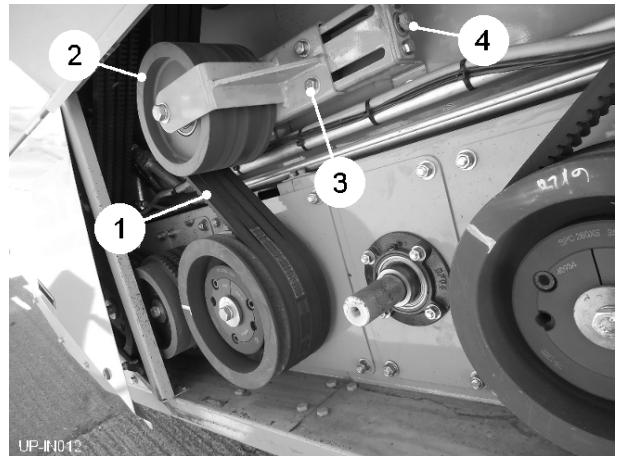

Fig 20
The front 'V' belts (item 1, fig 20) are tensioned by the roller unit (item 2, fig 20). To adjust, loosen the two locking screws (item 3, fig 20) and turn the adjuster (item 4, fig 20).